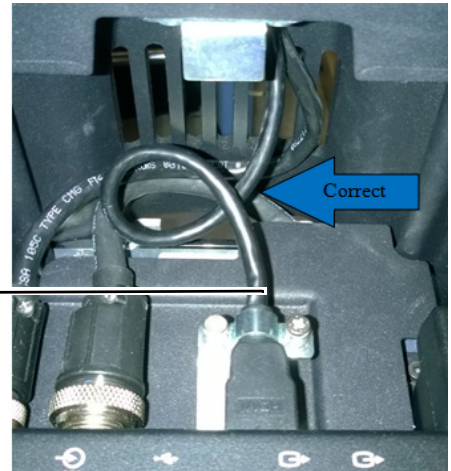

Figure 6.9 HDMI Cable Installation
- 6 Install the HDMI cable making sure a proper service loop is in place per Figure 6.9. Failure to do so may cause excessive wear on the cable when the Clinical Monitor is folded down to collapse for transport.